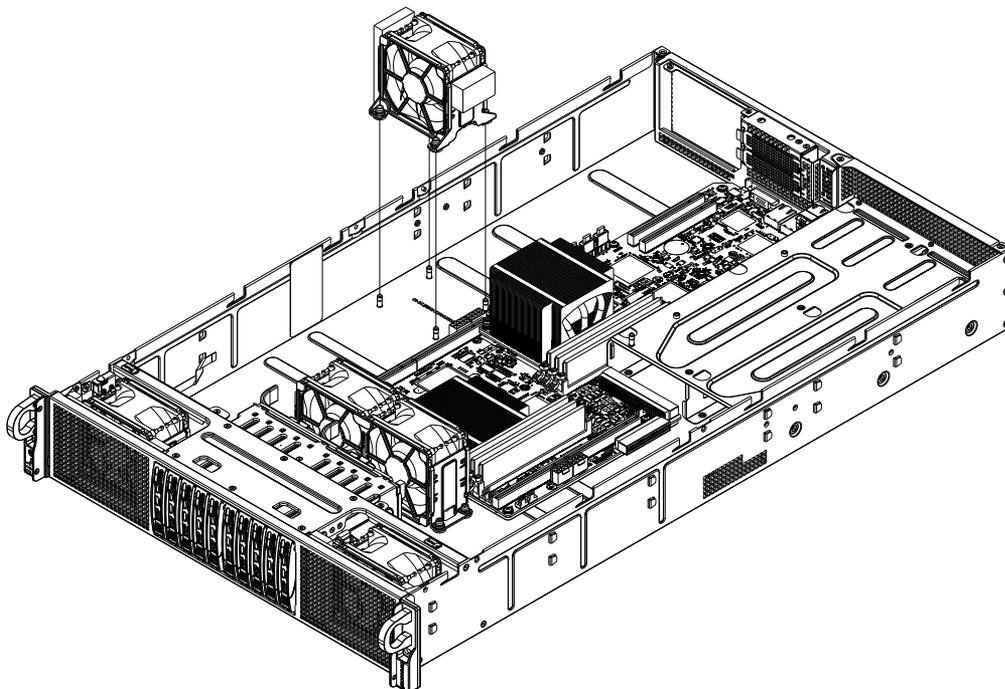
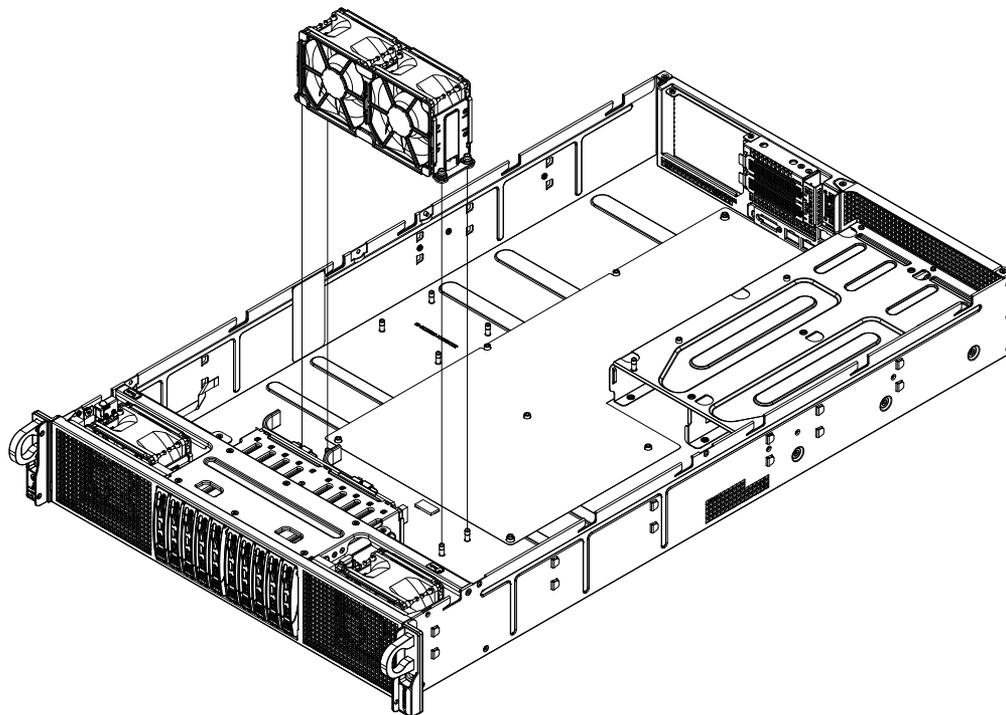

Figure 6-6 Remove/Replace GPU Fan Example
Figure 6-7 Mid-chassis Fan Assembly Remove/Replace Example
3. Lift the fan housing up and out of the chassis, see Figure 6-6 for the GPU fan extraction example. See Figure 6-7 on page 55 for the mid-chassis fan extraction location.